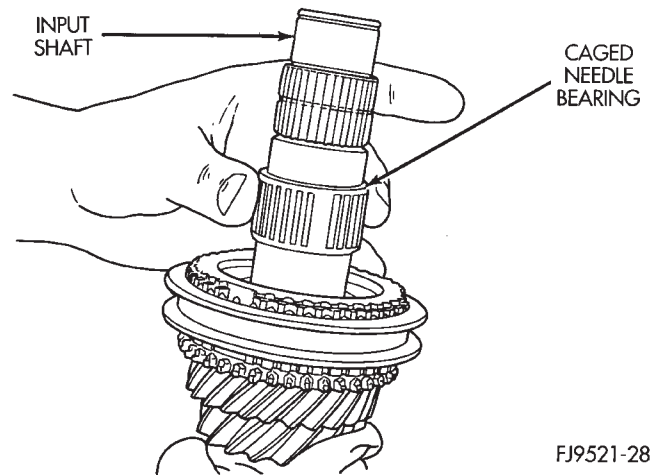

Fig. 95 Caged Needle Bearing Removal
(8) Remove 4th gear caged needle bearing (Fig. 95). Check the caged needle bearing for a broken retention spring.